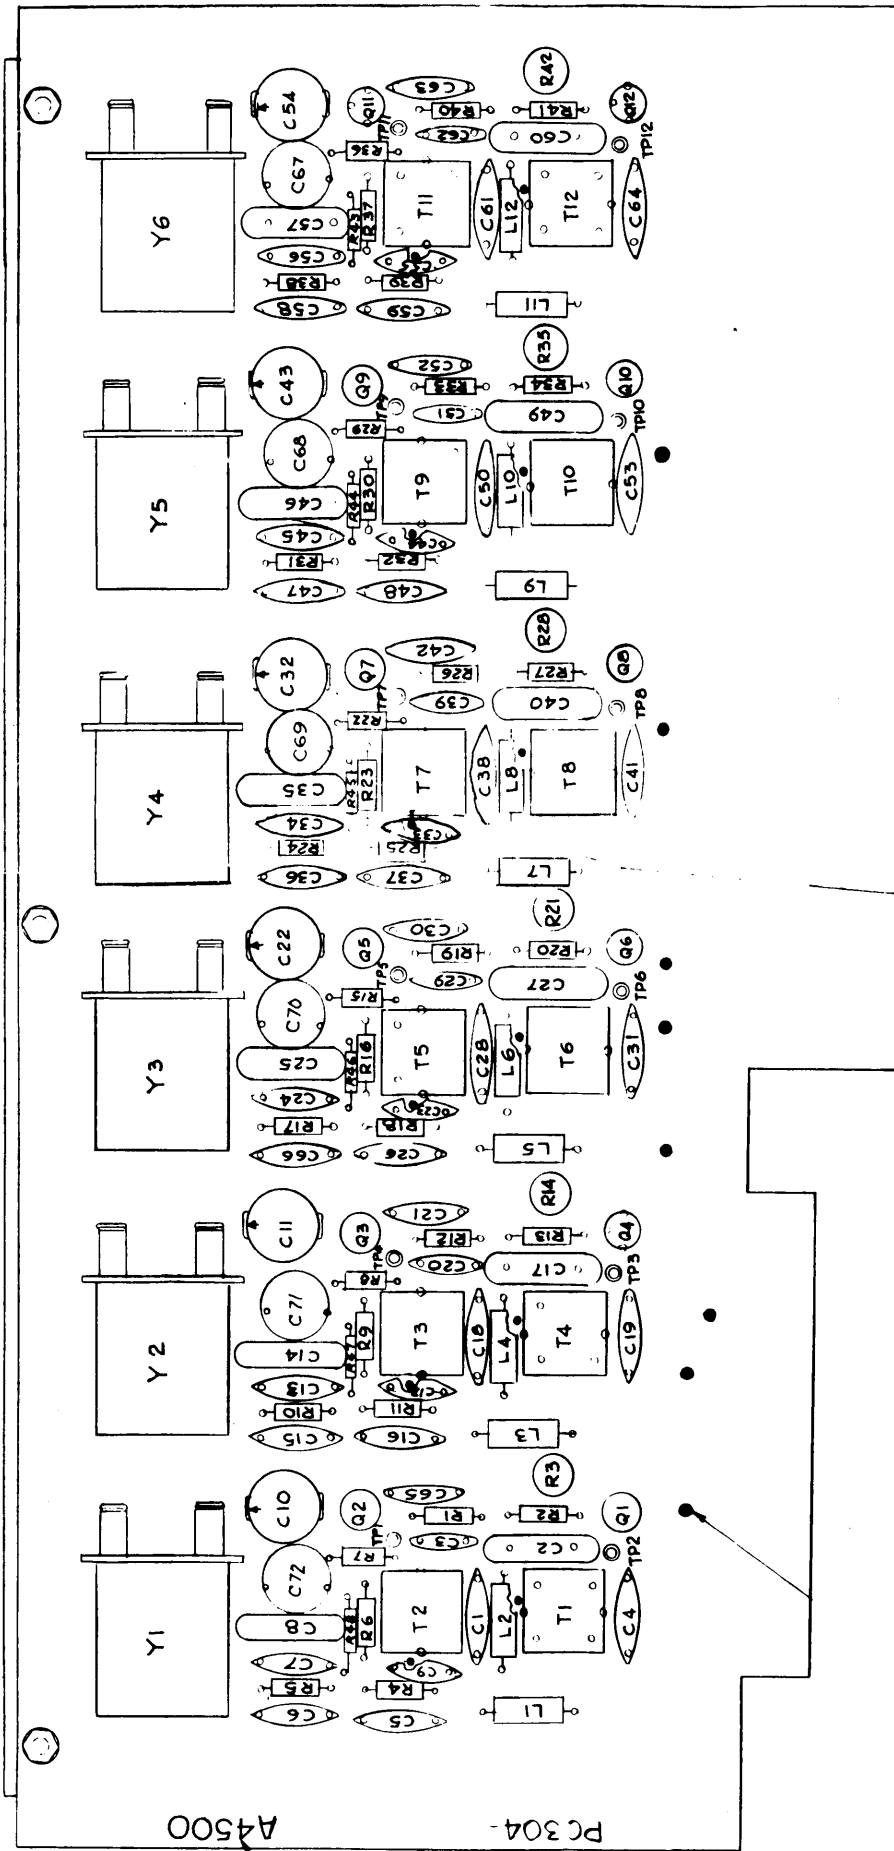

Figure 5-7, Component Location Diagram Comb Filter (Z102).
a. INTRODUCTION. - Repair of the chassis-mounted power supply circuitry follows standard lab procedures. Repair of printed circuit cards and card receptacle wiring, however, require the special tools and techniques as outlined here. Section 6, Parts List, lists all replaceable parts and their circuit symbol numbers. These symbol numbers are shown on the schematics contained in section 7 and located on figures 5-7 thru 5-23.